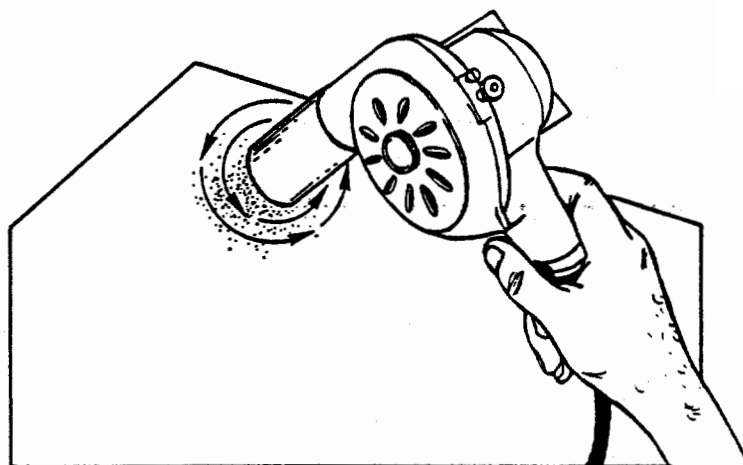

Figure 4-8. Surface Scratches, Abrasions or Ground-in-Dirt
- b. Surface Scratches, Abrasion or Ground-in-Dirt: (Refer to Figure 4-8.)